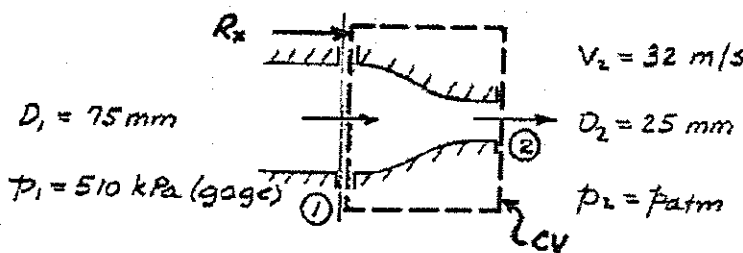

Fig. Q3
3. Water flows through a fire hose and nozzle as shown in Fig. Q3. Find the following: